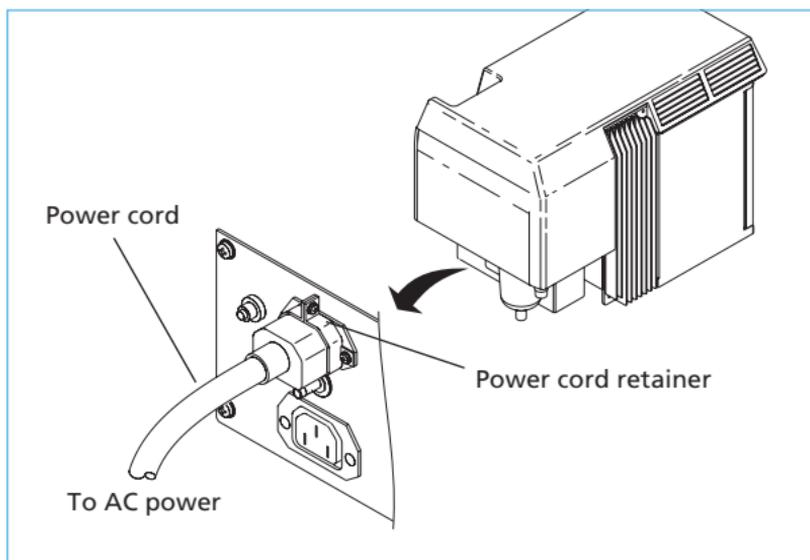

FIGURE 2.
- ⇒ Plug the ventilator power cord to AC power (see Figure 2). The power cord retainer protects against accidental disconnection, and must always be in place during operation.